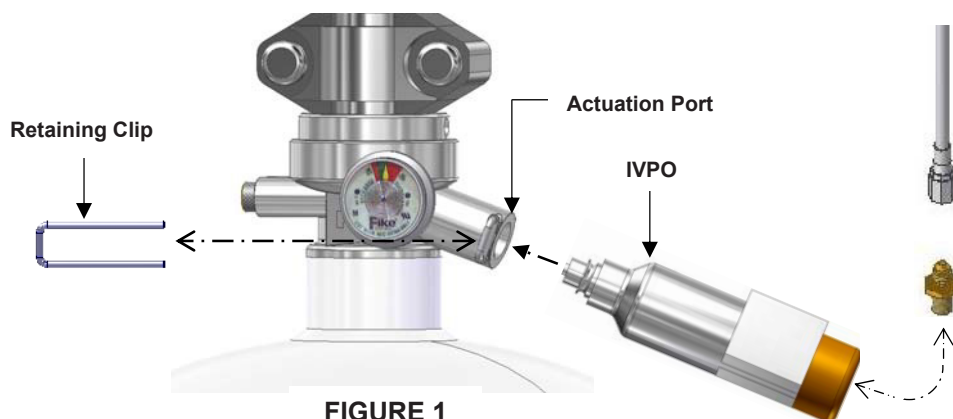

FIGURE 1
- Remove the Retaining Clip p/n (02-11986) from the actuation port of the Impulse Valve. (see Figure 1)
- Insert the IVPO into the actuation port of the Impulse Valve and secure by inserting the Retaining Clip provided. (see Figure 1)